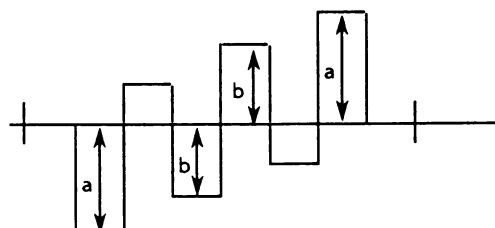

Fig. 4-9
- Keep the connection for step (10).
- Adjust VR3 so that the B - Y signal becomes as shown in Fig. 4-9..
- Adjust VR9 so that the B - Y signal becomes as shown in Fig. 4-9.
(12) Y signal adjustment